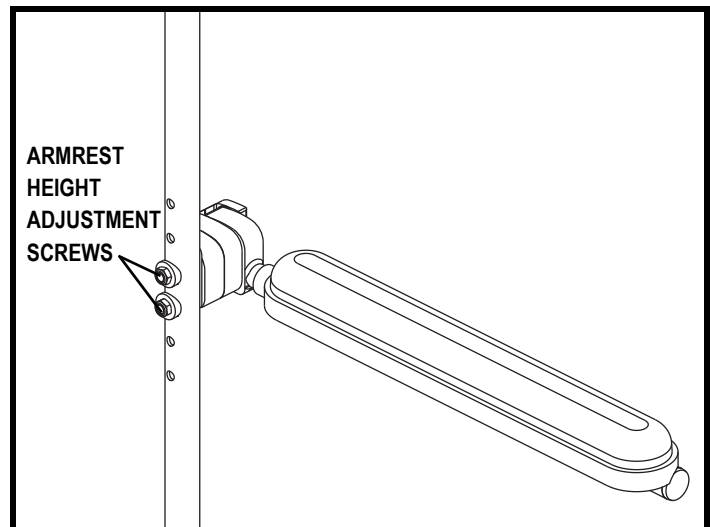

Figure 31. Flip-up Armrest Height Adjustment
1. Remove the armrest height adjustment screws. See figure 31.